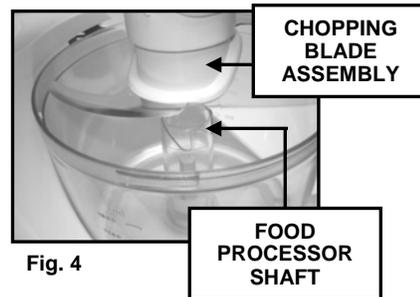

Fig. 4
- After having assembled the chopping blades, carefully place the chopping blade assembly onto the shaft of the food processor bowl. (Fig. 4) Ensure that the blades are securely in place before continuing.
- Once the food processor bowl is securely in place, remove the protective blade cover from the lower chopping blade and carefully place the lower chopping blade onto the shaft the food processor bowl. (Fig. 4)